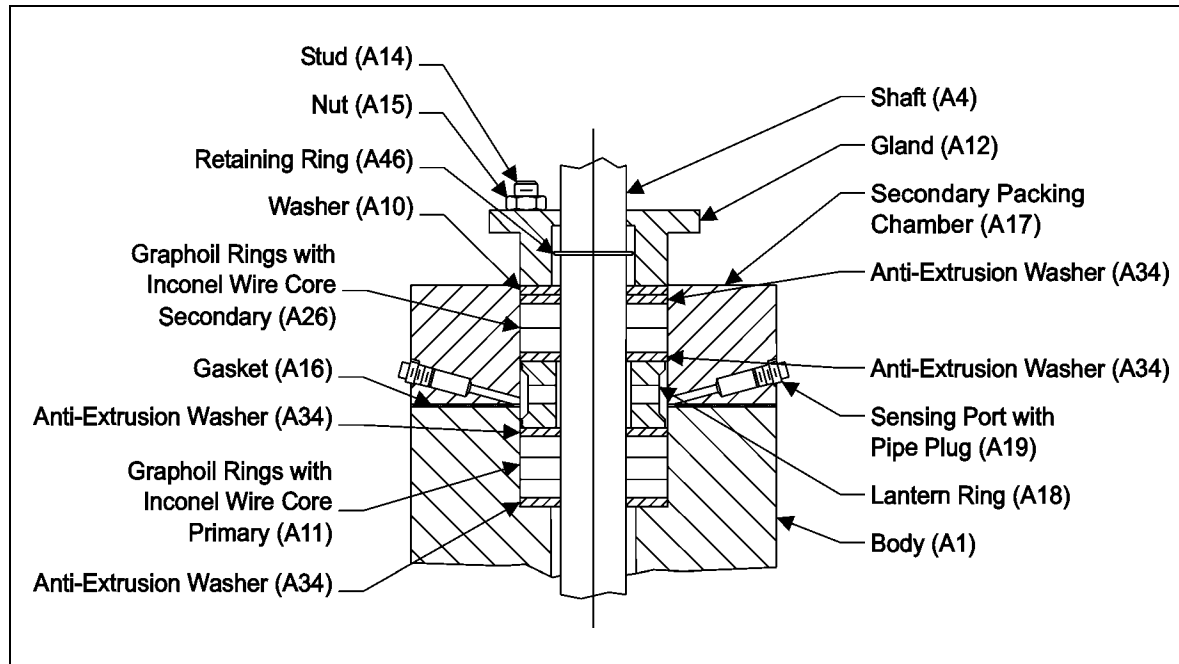

Figure 9 — Packing Option (G2D)
- Place the primary (lower) set of new packing (A11) and anti-extrusion washers (A34) in the body, one ring at a time, as shown in Figure 9.
- Place the following parts in the configuration shown in Figure 9: